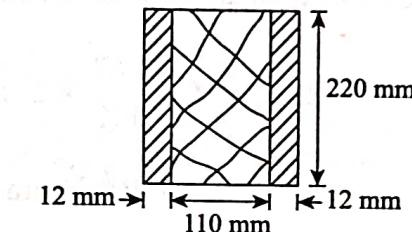

Figure 9.14
**EXAMPLE 9.10:** A flitched beam consists of a wooden joist 110 mm wide and 220 mm deep reinforced by two steel plates 12 mm thick and 220 mm deep as shown in Fig. 9.14. If the maximum stress in wooden joist is  $10 \text{ N/mm}^2$ , determine the corresponding stress induced in steel. Also find the moment of resistance of composite section.  $E$  for steel =  $200 \text{ GN/m}^2$  and  $E$  for wood =  $12 \text{ GN/m}^2$ .